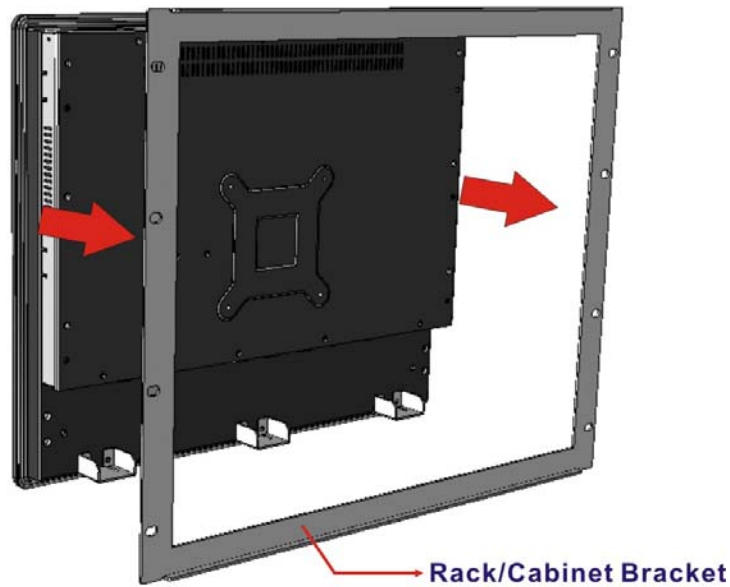

Figure 3-37: Slide through the Rack/Cabinet Bracket
Step 2: Slide the rear of the PPC-F19B-BTi flat panel PC through the rack/cabinet bracket until the aluminum frame is flush against the front of the bracket (Figure 3-37).